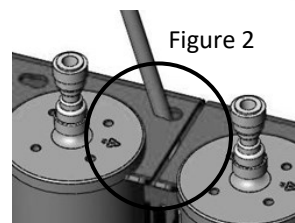

Figure 2
4. Once all cartridges are in place, ensure tubing is securely locked into position as shown in figure 2.
4. Once all cartridges are in place, ensure tubing is securely locked into position as shown in Figure 2.